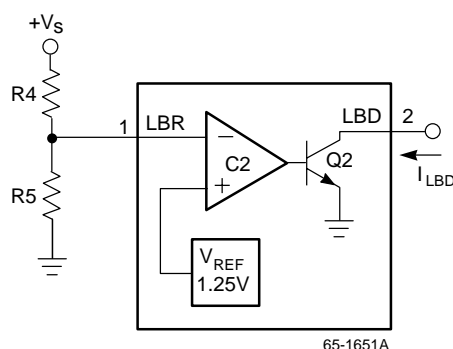

Figure 13. Low Battery Detector
\*Caution: Use current limiting protection circuit for high values of  $C_F$  (Figure 13)
An open collector signal transistor Q2 with comparator C2 provides the designer with a method of signaling a display or computer whenever the battery voltage falls below a programmed level (see Figure 13). This level is determined by the +1.25V reference level and by the selection of two external resistors according to the equation:
Draws excessive supply current on star-up.	Inductance value too low. Output frequency (FO) too low. Combination of low resistance inductor and high value filter capacitor — needs current limiting circuit (Figure 13).